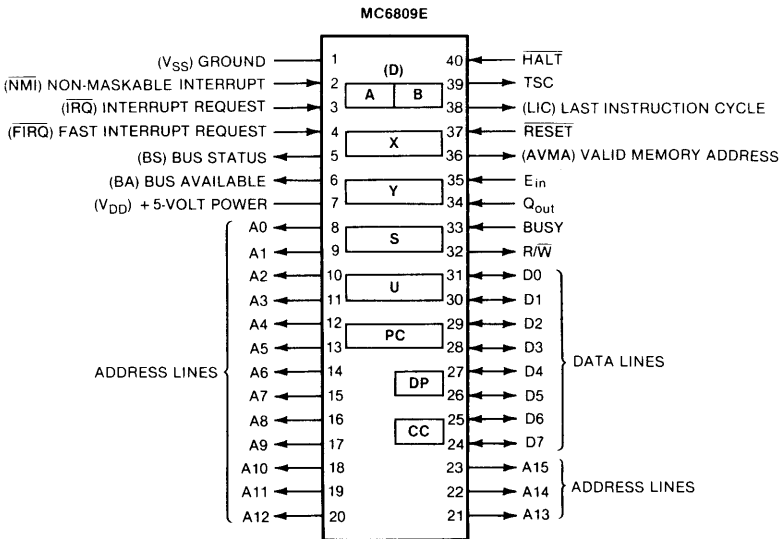

Fig. 6-12. 6809E pin configuration.
The 6809E, sister to the 6809, is also a 40-pin HMOS device and is available in either a plastic (P) package or ceramic (L) package. This device is intended primarily for multiprocessor system use, since it provides extra signal lines for additional MPU status information. An example of the 6809E's use in a multiprocessor system will be given in the next chapter. The 6809E footprint is shown in Fig. 6-12. Two extra signal lines (BUSY and LIC) are provided in lieu of the standard 6809 crystal connect pins (XTAL and EXTAL). Moreover, the 6809E includes an advanced valid memory address (AVMA) line in place of the 6809 memory ready (MREADY) line and a three-state control (TSC) line replaces the 6809 $\overline{\text{DMAREQ}}$ line. As stated earlier, the 6809E is an off-chip clock version of the 6809. Therefore you must supply the required E_{in} and Q_{in} clock signals at pins 34 and 35, respectively. The phase relationship be-